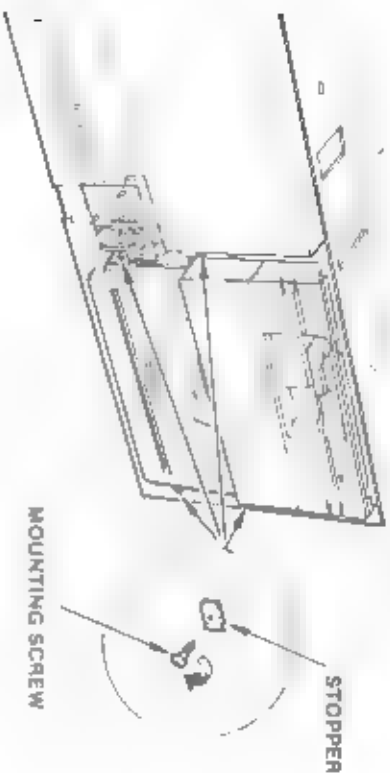

Figure 11-22 Securing the Fixed-Disk Drive
12. Install the diskette drive B cover plate using two of the screws and stoppers removed previously (Figure 11-22).